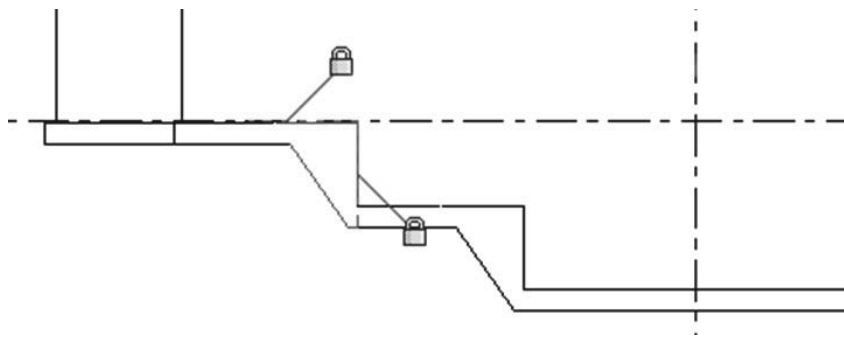

Figure 7–63
- Some custom families have sizing options in either Properties (per instance) or in the *Type Properties* dialog box (as shown in Figure 7–64) so that you can create additional types in various sizes as needed in the project.